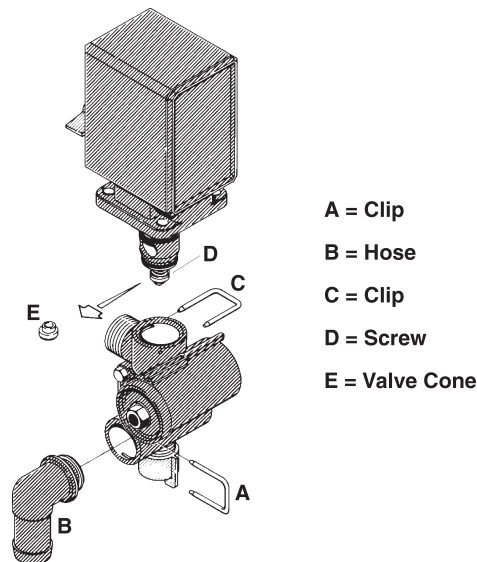

Fig 33
- 1 Cautiously remove the pressure equalization device clip (**A** Fig 33) and pull out the hose (**B** Fig 33). When the housing is drained, there should be no liquid flow through the pressure equalization device. If there is any leakage, the valve cone (**E** Fig 33) must be changed.
- 2 Remove the clip (**C** Fig 33) and lift the motor housing off the valve housing.
- 3 Then unscrew the screw (**D** Fig 33) and replace the valve cone (**E** Fig 33).